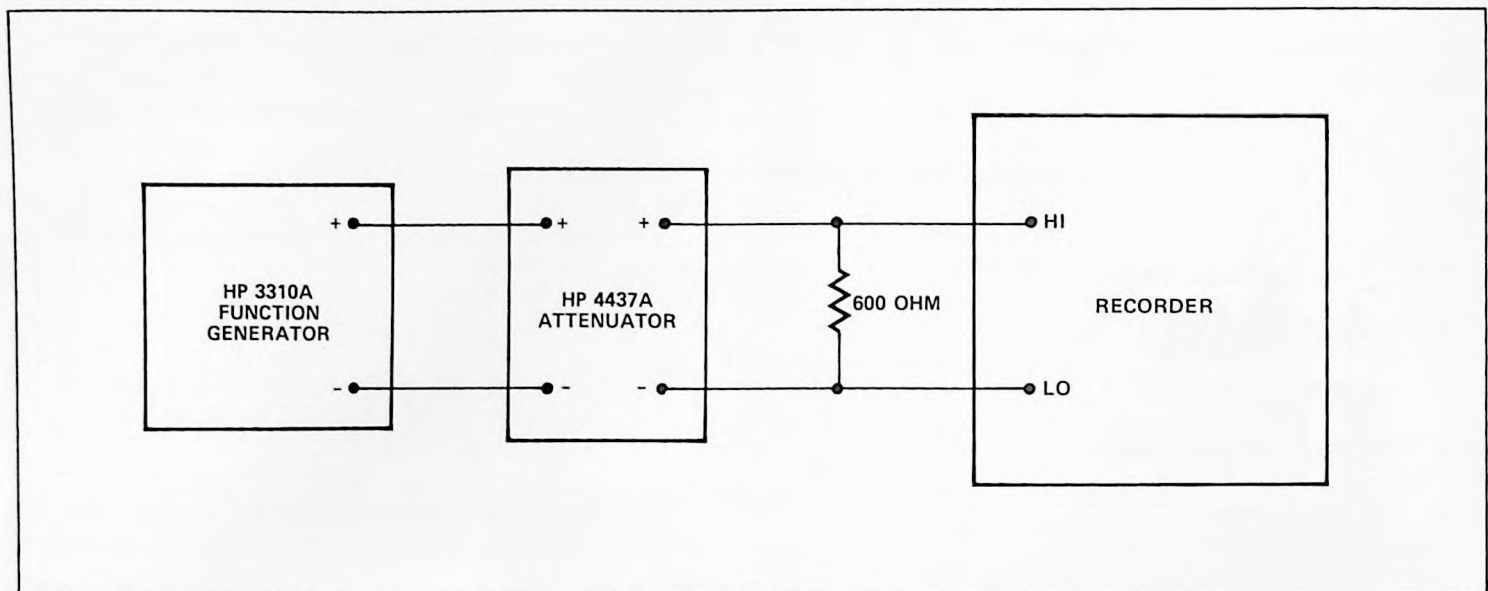

Figure 5-14. Connections for Deadband Test
a. Connect function generator, attenuator, 600 ohm resistor, and recorder as shown in Figure 5-14. A 600 ohm current termination is required with the attenuator.